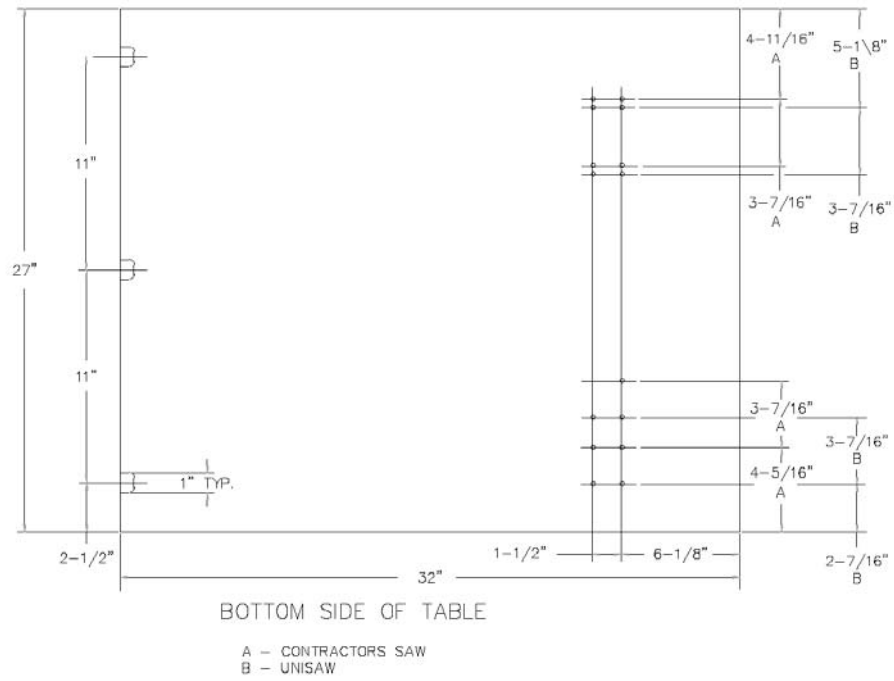
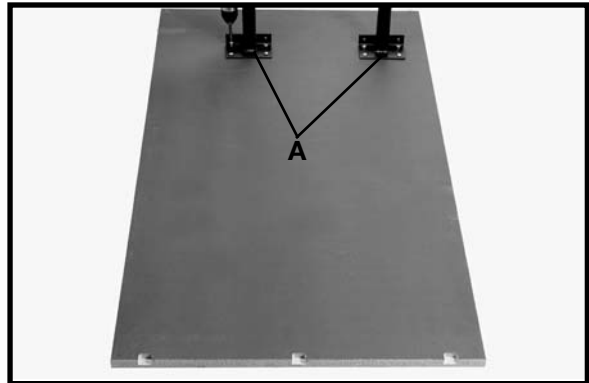

Fig. 2
Fig. 5
1. A 32" long by 27" wide table is constructed using 3/4" material by following the dimensions shown in Fig. 2.
2. Three undercuts must also be made on the bottom left end of the table. The location and size of the undercuts are shown in detail in Figs. 2 and 3.
3. Assemble the two table legs (A) Fig. 5 to the bottom of the table using eight #8x7/8" self tapping screws supplied. **NOTE:** Refer to Fig. 2 for the hole location for the 36-902 30" Unifence.